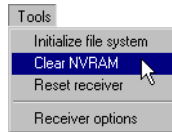

Figure 3-22. Clear NVRAM
2. Click **Tools ▶ Clear NVRAM** (Figure 3-22). The REC LED rapidly flashes green and red; the STAT LED flashes red.